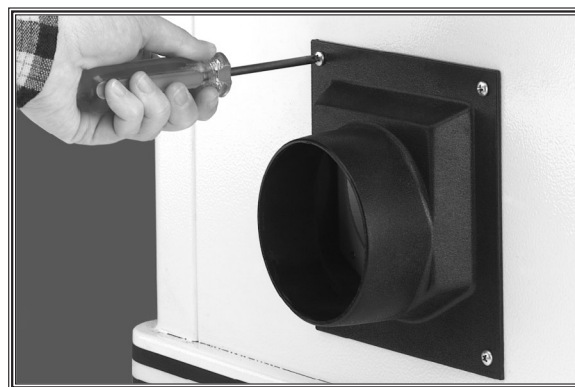

Figure 23. Installing dust port.
7. Mount the dust port onto the cabinet stand with the four 10-24 x $\frac{3}{8}$ " tap screws, as shown in **Figure 23**.